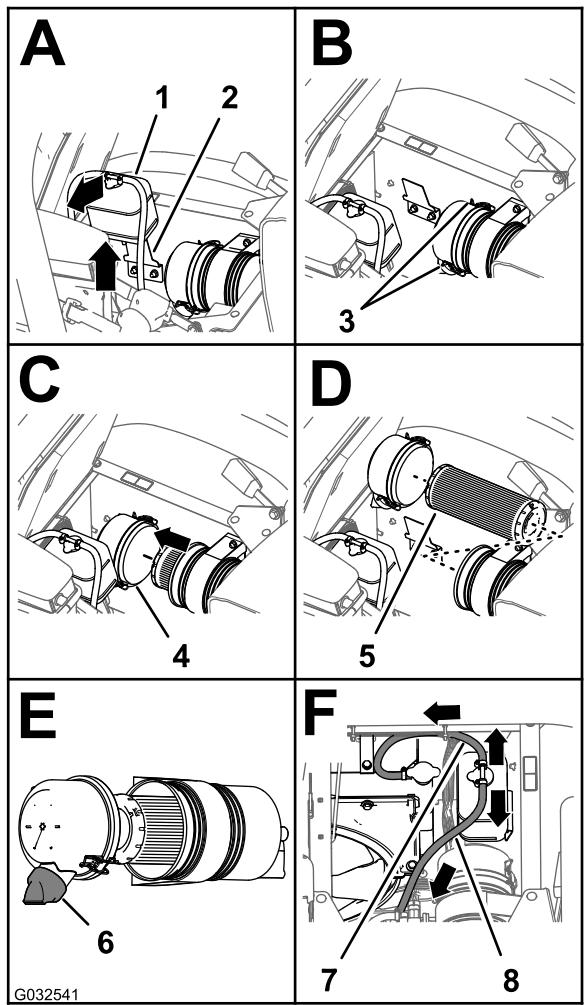

Figure 111
3. Lift the coolant-overflow tank up and off the tank-support bracket (Figure 111).
4. Loosen the 2 latches that secure the dust cap to the air-cleaner body (Figure 111).
6. Clean the inside of the dust cap, air-cleaner body, and dust valve with a damp rag (Figure 110 and Figure 111).
7. Insert the air-filter element into the air-cleaner body (Figure 111).
8. Install the cover onto the air-cleaner body and secure the cover with the 2 latches (Figure 111).
Note: Ensure that the dust valve is aligned between the 5 to 7 o'clock position when viewed from the end (Figure 111).
9. Align the coolant-overflow tank to the tank-support bracket and seat the tank firmly (Figure 111).
Important: Ensure that the pressure-relief hose is routed forward and down, and the tank-vent hose is routed rearward as shown in Figure 111.